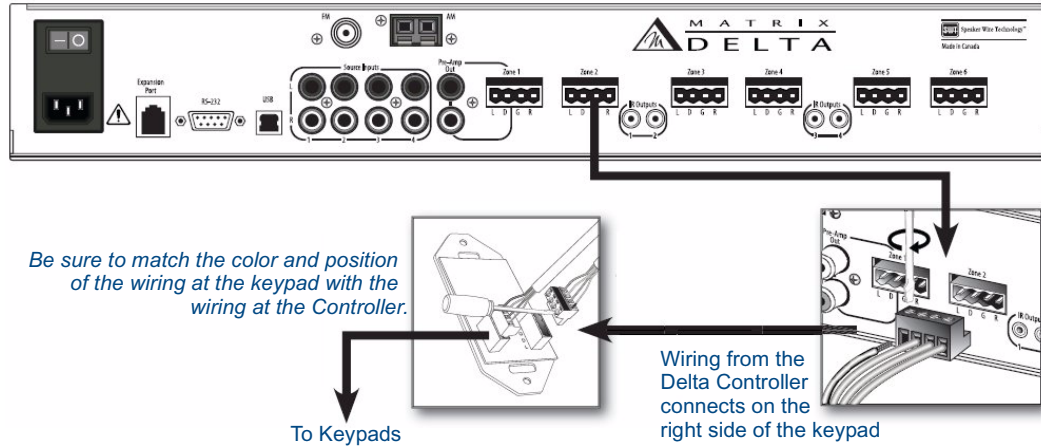

FIG. 2 Connect the Keypads to Delta
Looking at the rear of the keypad with the connectors at the bottom, you will see (2) plug type 4 pin receptacles. The connector on the right side terminates the 4 conductor wire from the Delta Controller and the connector on the left side passes the audio to the speakers in the zone (FIG. 2).